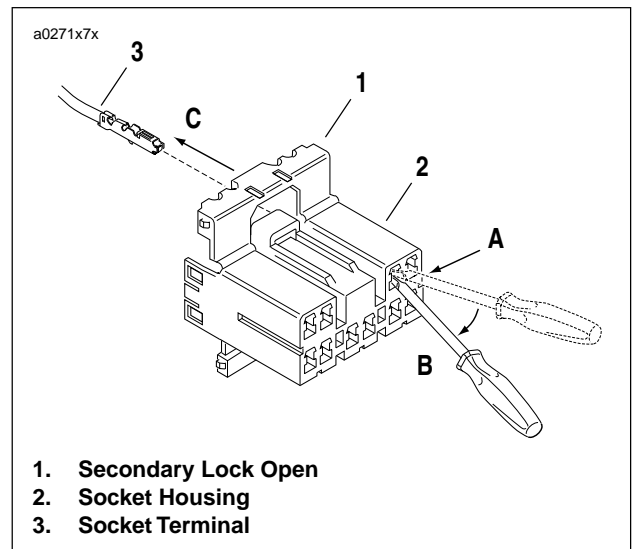
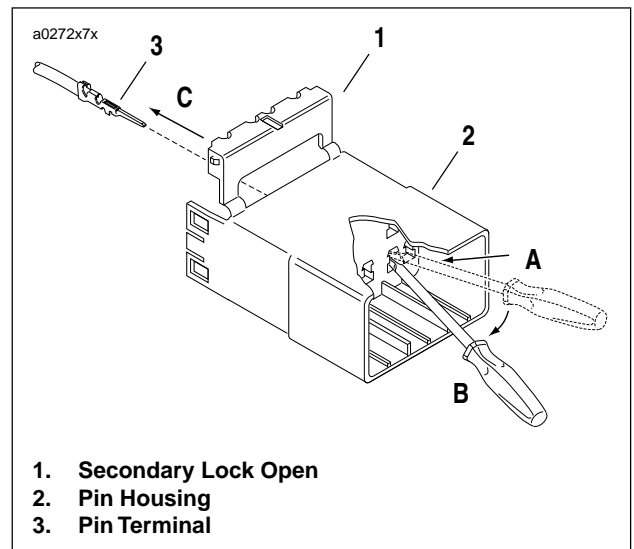

Figure B-6. Socket Terminals
Figure B-7. Pin Terminals
7. Remove socket terminal (Figure B-6) or pin terminal (Figure B-7).
- a. If installing socket terminals, see Figure B-6.
- b. If installing pin terminals, see Figure B-7.